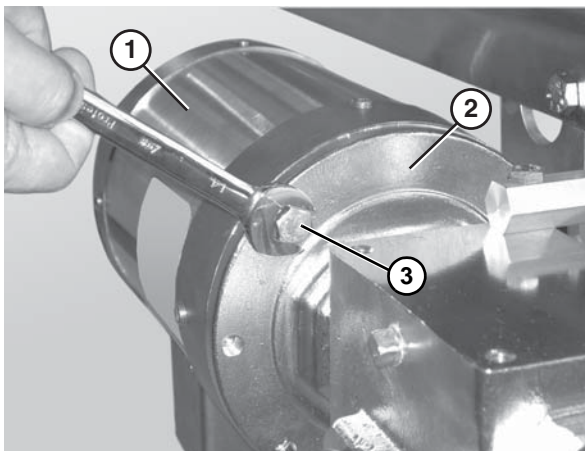

Figure 53
1. Remove the bolts that connect the motor to the drive assembly (Figure 53, item 3).
2. Remove the motor (Figure 53, item 1) from the drive assembly (Figure 53, item 2).